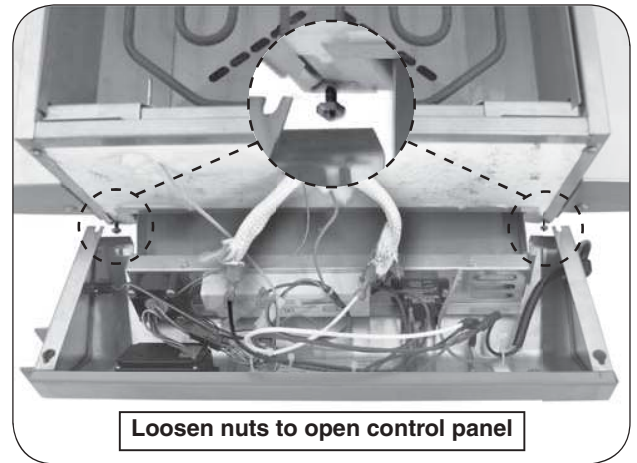

Fig. 18-1 Remove control panel
4. Loosen the nuts underneath the control panel with a 11/32" wrench, then lift the panel until it is freed from the screws. Carefully rest the panel on the drip tray. Reference Fig. 18-1.